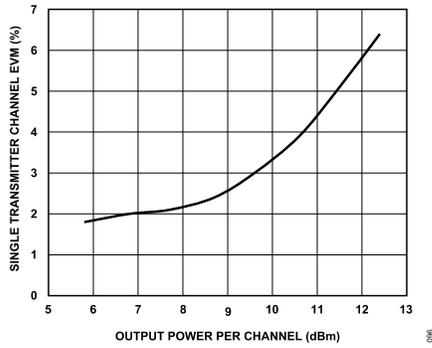

Figure 95. Single Transmitter Channel EVM vs. Output Power Per Channel at Maximum Gain
Figure 95 shows the single transmitter channel EVM vs. output power per channel of the ADMV4821 at maximum gain. The EVM measurement is performed using four 100 MHz, 5G new radio (NR), 256 quadrature amplitude modulation (QAM).